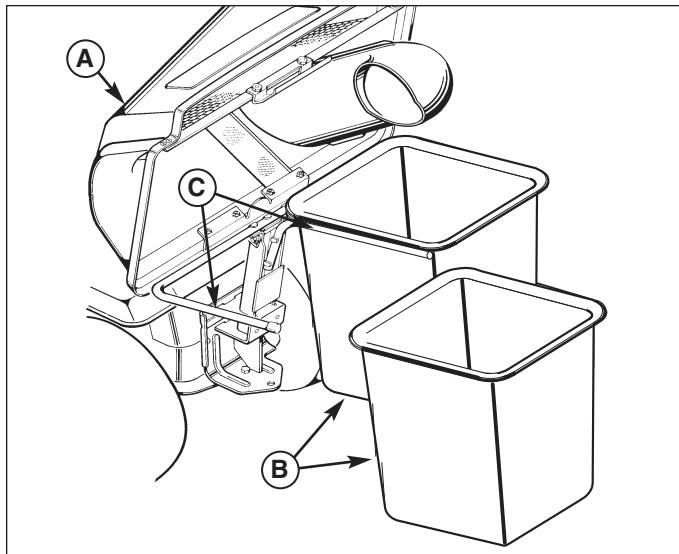

Figure 12. Install Collector Bags
1. Raise the cover (A, Figure 12).
2. Slide collector bags (B) onto tubes (C) with the white bar towards the rear.